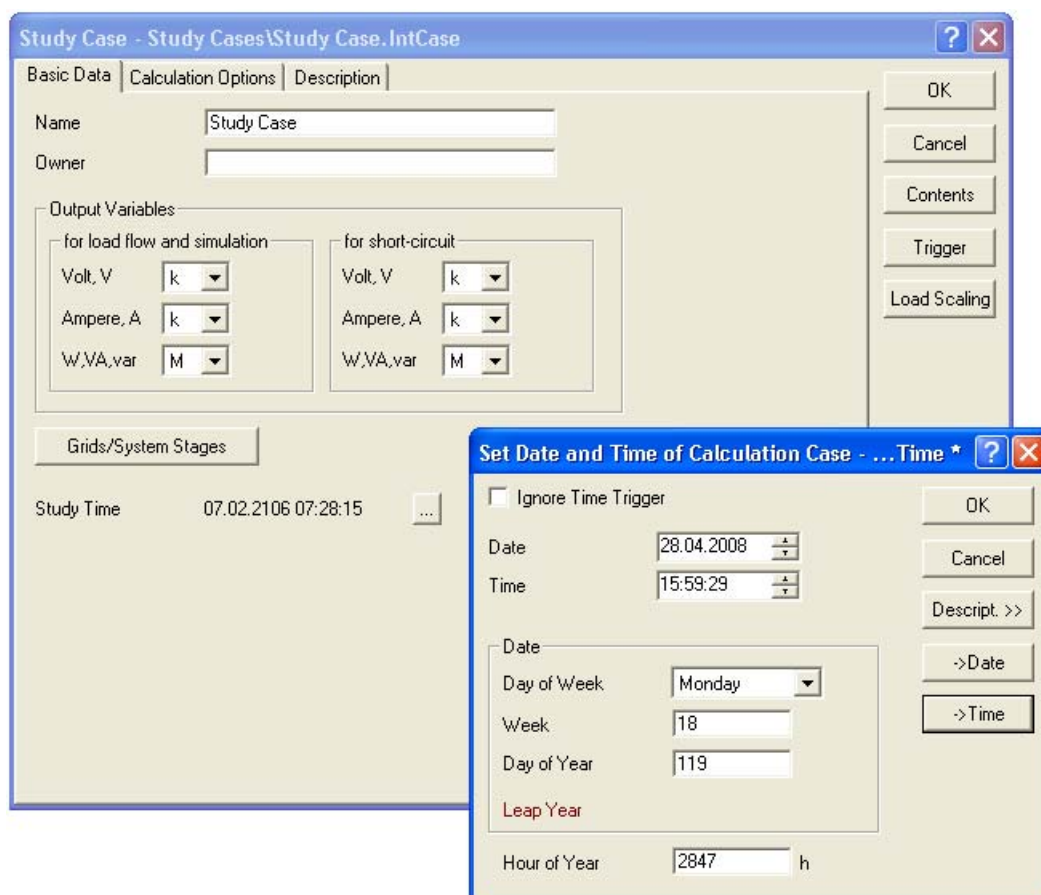

Fig. C.8: Setting Date and Time of the Study Case
- ▶ To set the Study Time click in the button with the three dots (...). A window "Set Date and Time of Calculation Case" appears, as shown in figure C.8.